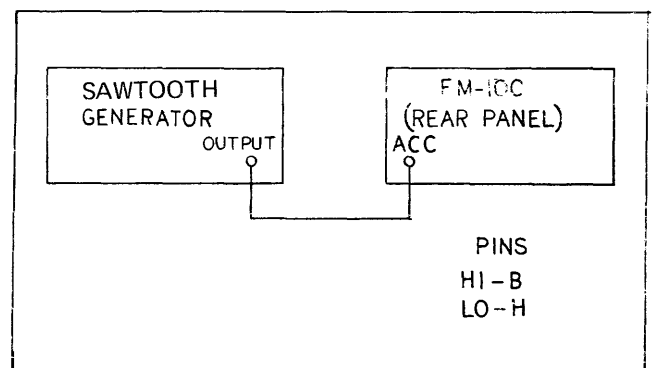

FIGURE 2-8 ELECTRONICALLY SWEPT FREQUENCY GENERATION (MODEL RFM-10A)
b. Connect sawtooth generator to FM-10C as shown in Figure 2-8.